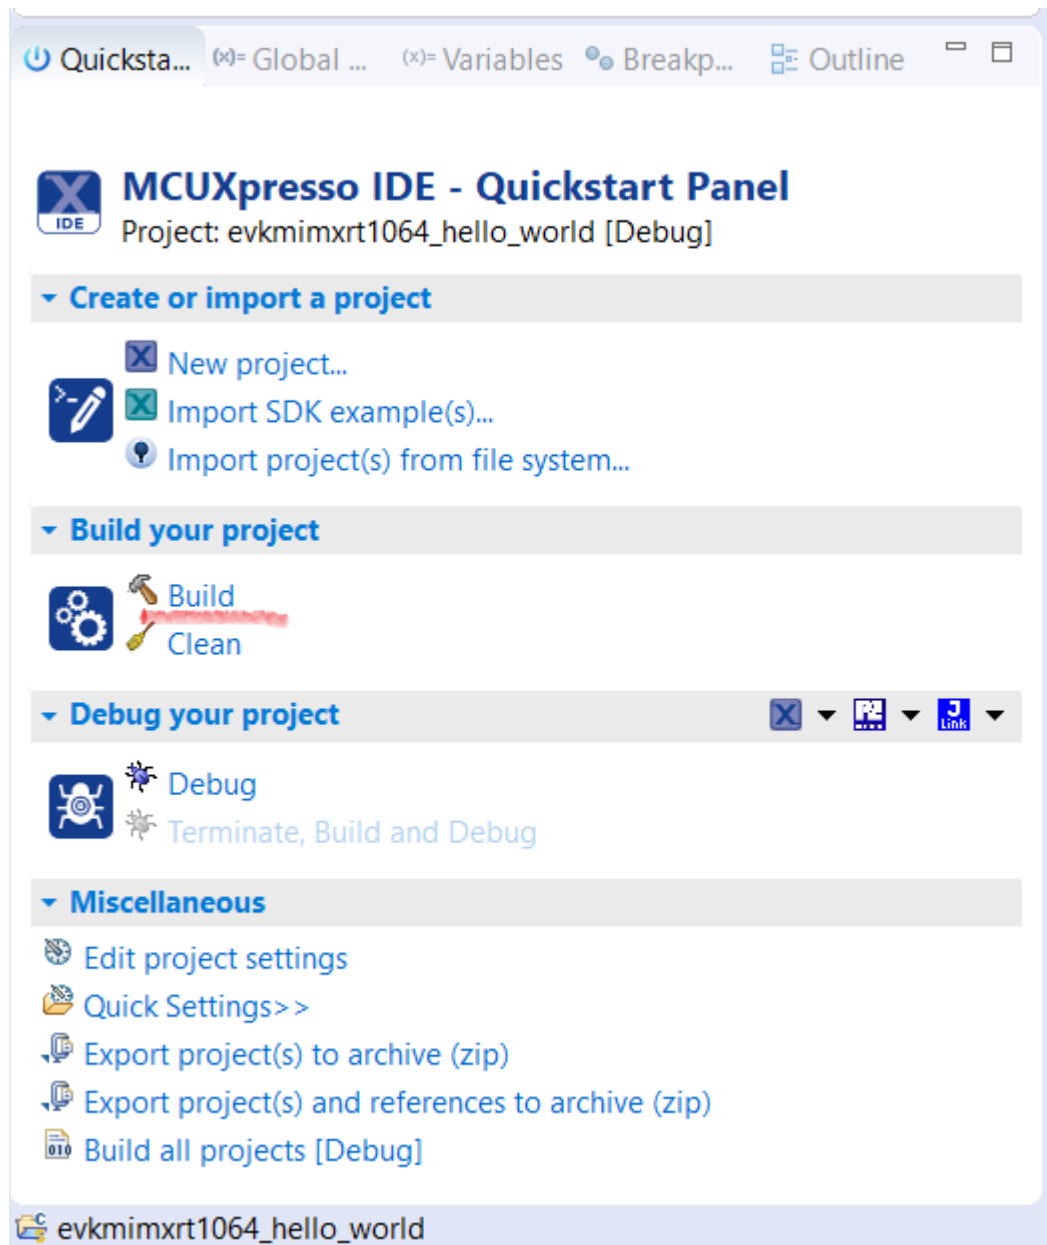

Figure 35. Building hello world case
- On the **Quickstart** panel, click **build evkmimxrt1064_demo_apps_hello_world [Debug]**, as shown in Figure 35.